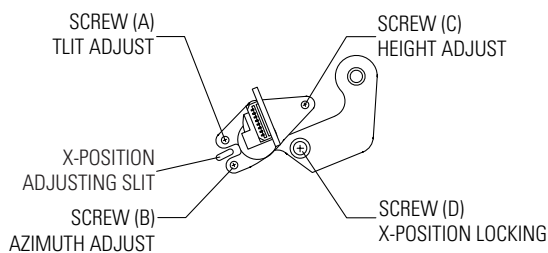

Fig. 3-5-1 Location of ACE Head Adjustment Screw
(Refer to Fig. 3-5-1 and 3-5-2)
- 3) Adjust screw (B) to achieve maximum audio level. (See Fig. 3-5-1)
Do not adjust the X-point using excessive force. After turning the X-point adjusting screw (D) counterclockwise a little, perform the adjustment and then tighten the screw. (See Fig. 3-5-1)